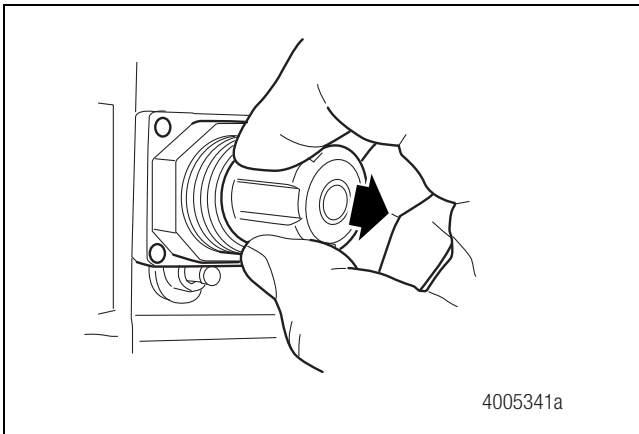

Figure 3.13
1. Unlock the regulator knob by pulling on the knob outward. You should hear and feel a slight click. Figure 3.13.